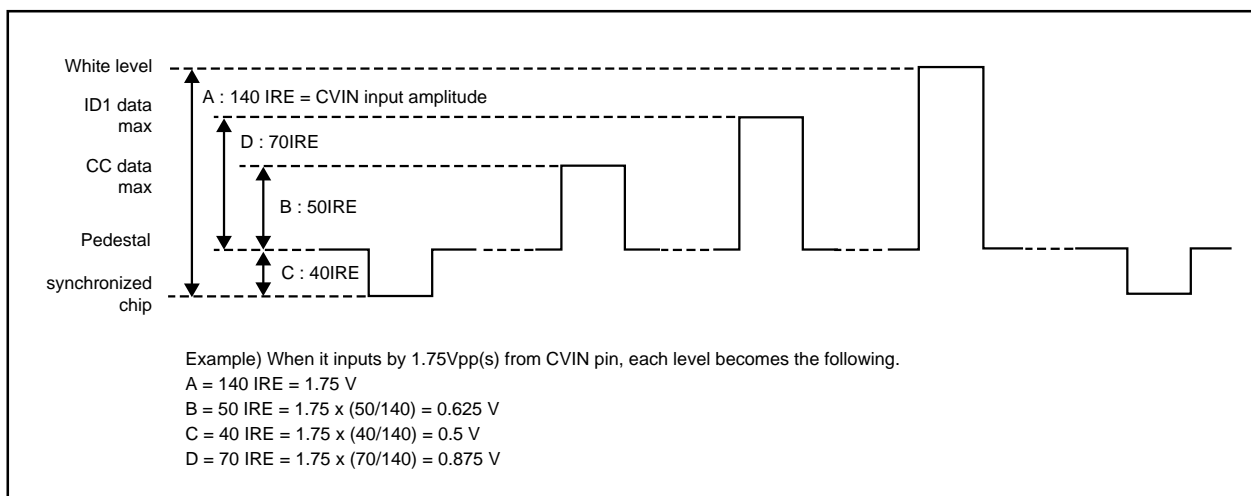

Figure 2.14.2 Each signal level to input amplitude of CVIN pin
(2) Each signal level to input amplitude of CVIN pin is shown in Figure 2.14.2.